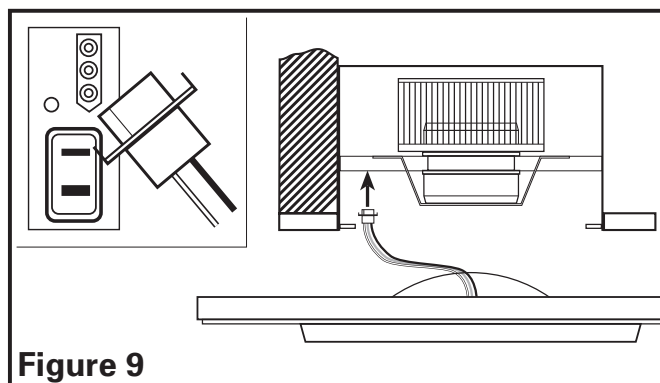

Figure 9
3. Plug cord from lamp holders into the appropriate receptacle (Figure 9).
3. **Changing the Light Bulb:** Disconnect power to the unit. Remove the glass light lens from the grill by pulling downward on the lens. It is held in place with hidden tabs on either side of the lens. It might be necessary to carefully insert a putty knife or screwdriver into one of the indentations around the light lens to help release the lens from the grill (**Figure 9**). Replace main light bulb with 100 watt maximum, type A19 medium base incandescent bulb. Replace night light bulb with 7 watt maximum, type C7 (candelabra base) incandescent bulb. Reinstall the glass lens in place by inserting the two tabs connected to the light lens into the holes in the grill and applying upward pressure until the lens fits snugly into place (**Figure 12**).